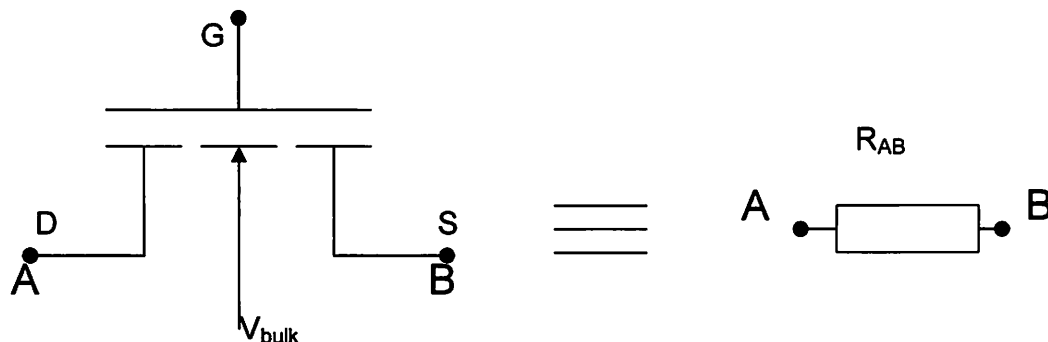

Figure 4.1
- 4.(a) Under which operating conditions does the MOSFET of Figure 4.1 realise a linear floating resistor between terminals *A* and *B* ? Explain why the bulk is not connected to the source.
- (b) Discuss three sources of non-linearity in the single MOSFET resistor realisation of Figure 4.1 and suggest one suitable circuit design to help to eliminate one or more of these non-linear terms. Show all necessary circuit analysis to confirm your design.